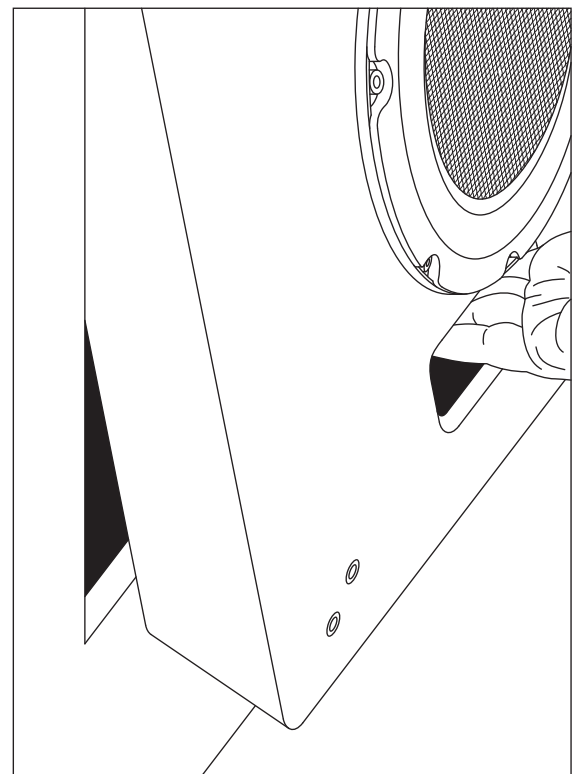

Figure 2
Step 3: Remove the grill from the wooden face-frame and set it aside. With the wooden face-frame in hand, use the port to lift the subwoofer (see figure 2). Align the holes in the face-frame with the four threaded inserts in the VS8 subwoofer cabinet, and insert the four face-frame screws (silver color) through the holes in the face-frame into the matching threaded inserts in the VS8 cabinet. Thread the screws loosely into the threaded inserts (do not tighten yet).